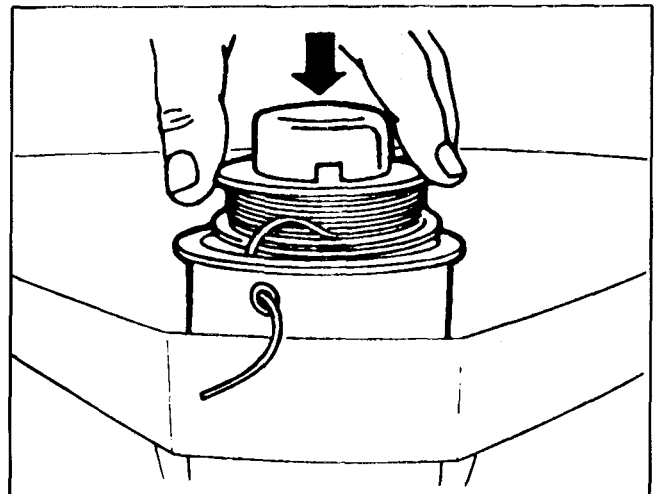

Figure 157
1. Align the keys molded into the core with the eyelet on the drum. It may be necessary to depress the core and rotate to get the keys to line up properly. See Fig. 157